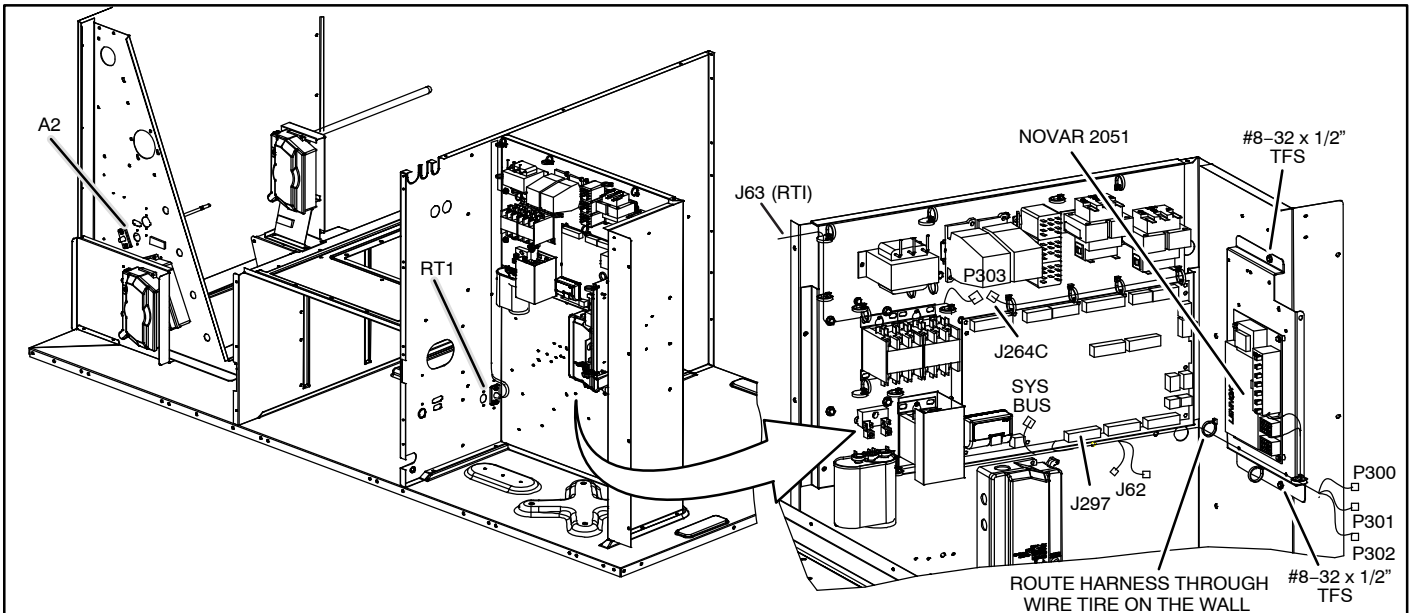
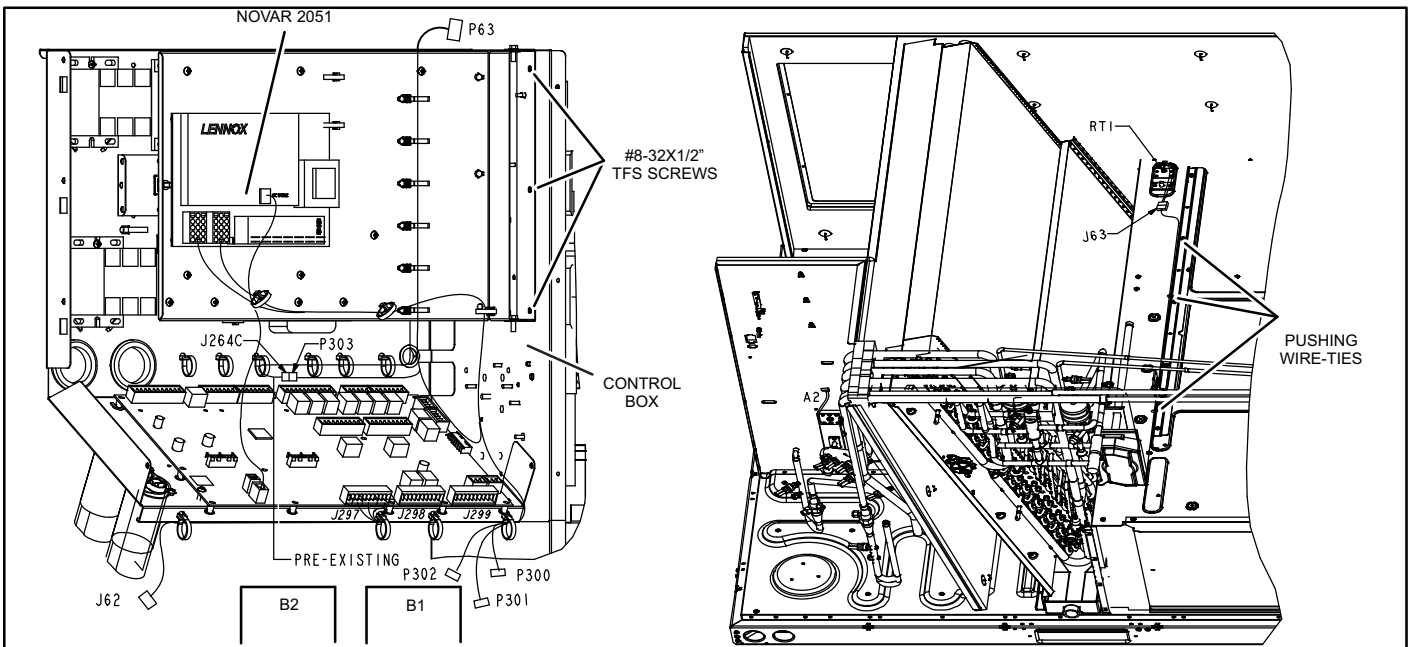
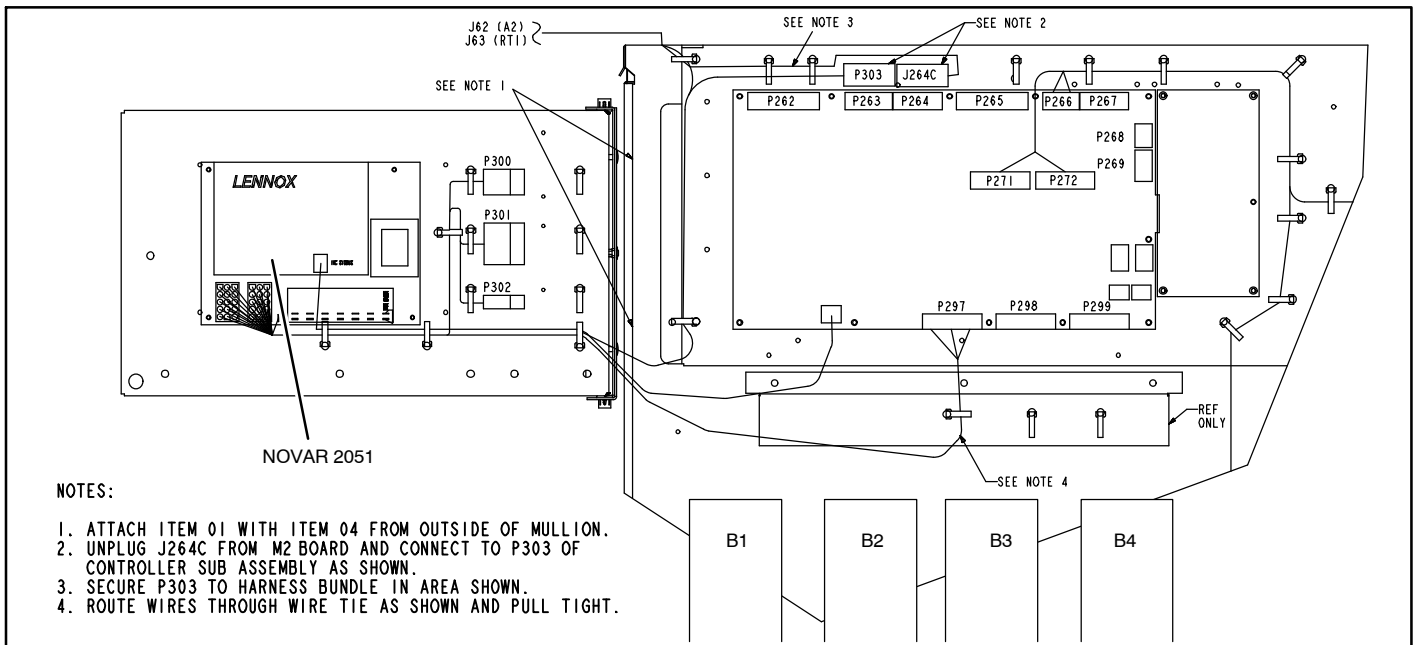

Figure 1. Novar 2051 DDC Location - A Box Units
Figure 2. DDC Location - B Box Units
Figure 3. DDC Location - C & D Box Units
See figure 1 for location of DDC assembly in A box units. See figure 2 for location of DDC assembly in B box units. See figure 3 for location of DDC assembly in C and D box units.
A Box Units—Position the DDC assembly on the right side of the M2 board (see figure 1). Secure with two #8-32 x 1/2" TFS" screws.
B Box Units—Position the DDC assembly in front of control panel and secure the assembly with three #8-32 x 1/2" TFS screws to the control box located at the right side of control panel (see figure 2).
Route harnesses coming from sub-assembly (see figure 1 for the following steps 1 through 5).
Route harnesses coming from sub-assembly (see figure 2 for the following steps 1 through 6).
Route harnesses coming from sub-assembly (see figure 3 for the following steps 1 through 3).
3. Insert discharge air sensor probe into hole at the left of blower deck as shown in figure 2. Secure with two #8 -32 x 1/2 TFS screws provided.
4. Cut wire ties holding sensor RT6 and secure both harnesses with pushing wire ties provided as shown in Figure 2.